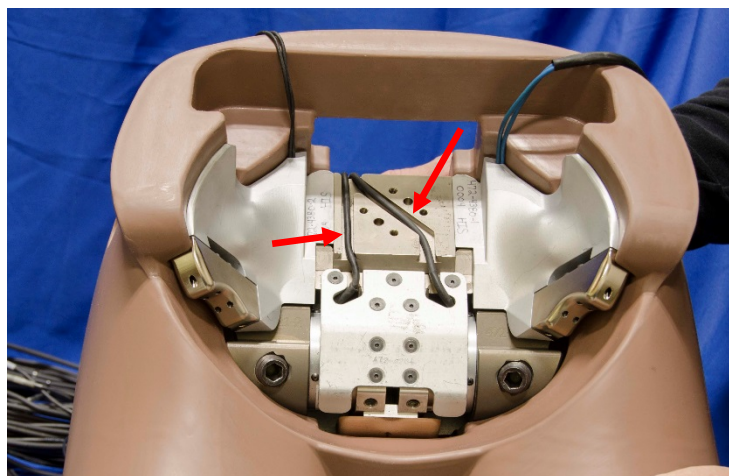

Figure 10-41. Route acetabulum wires through grooves in pelvis/lumbar mounting block
- 10.2.3.1 Route the acetabulum load cell wires in the grooved area on the pelvis/lumbar spine mounting block (Figure 10-41).